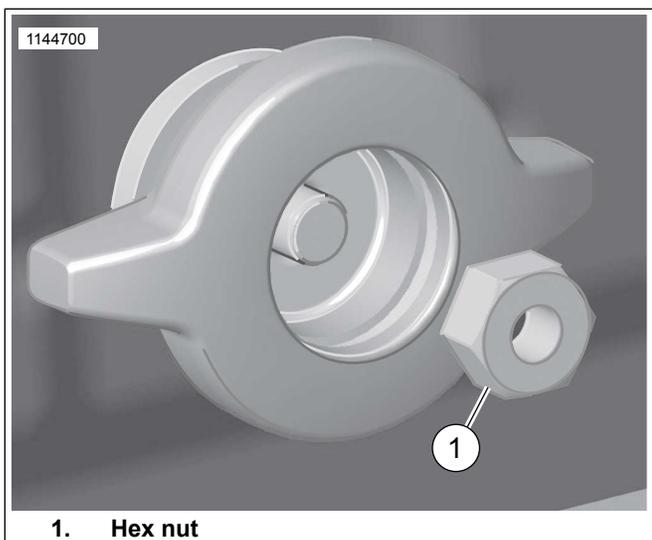

Figure 10. Install Hex Nut
- Refer to Figure 10. Place a bead of threadlocker on the threads of the hex nut (1).